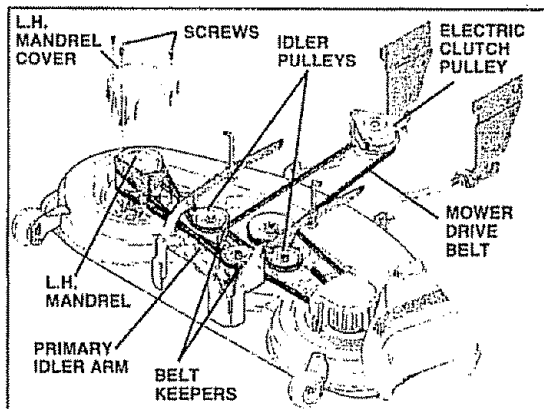

FIG. 25
**MOWER DRIVE BELT REMOVAL** (See Fig. 25)
**MOWER DRIVE BELT INSTALLATION** (See Fig. 25)